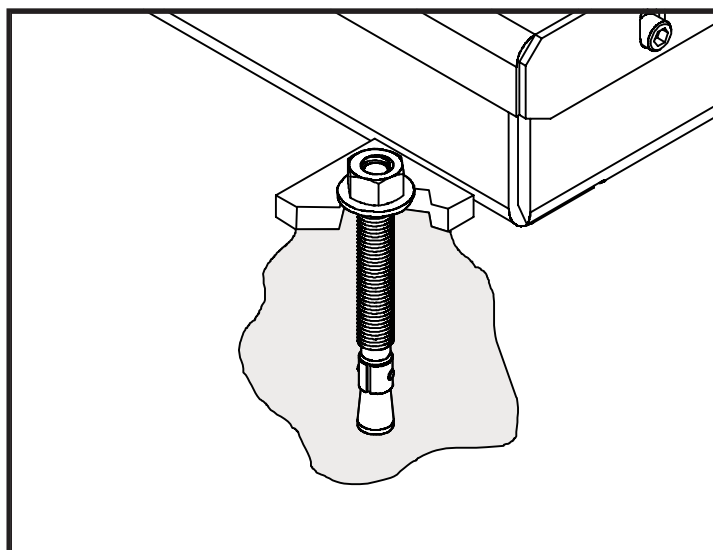

Figure 7 - Anchor Bolt Detail
6. The lift table's base frame has four (4) 5/8 in. holes for lagging the unit securely to the floor. Using the four (4) holes as a template, drill a 1/2 in. diameter hole, 3 in. minimum depth at each location. The floor surface should be level and the drilled holes perpendicular to the floor. If required, shift the position of the lift with a forklift to allow room for drilling, then drill. When complete, reposition the lift.
7. As detailed in Figure 7, prepare the 1/2 in. diameter x 4 in. long anchor bolts (USE type SUP-R-STUD #26-12400 or equivalent) by assembling the washer and nut on the anchor bolt. The nut should be screwed onto the anchor bolt approximately 1/2 the nut height.